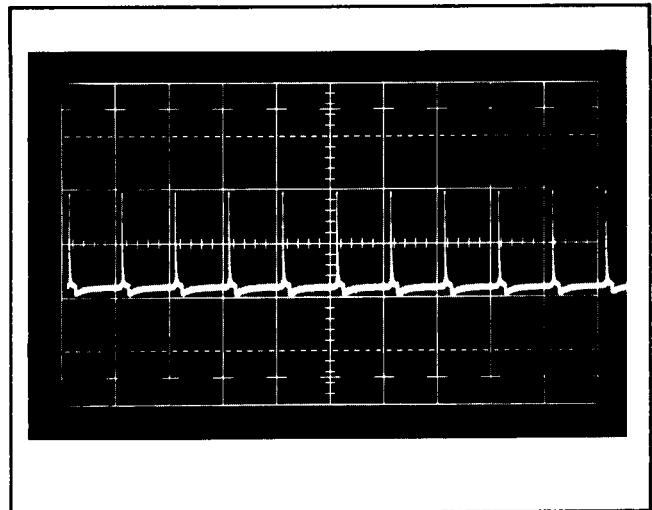

Fig. 5-7. Typical Test Oscilloscope display for measurement of Clock Pulse Output Amplitude.
- c. Adjust the Test Oscilloscope Triggering controls for a stable display. The pulse amplitude must be between 100 and 300 mV peak to peak, or between 1 and 3 major graticule divisions, see Fig. 5-7.